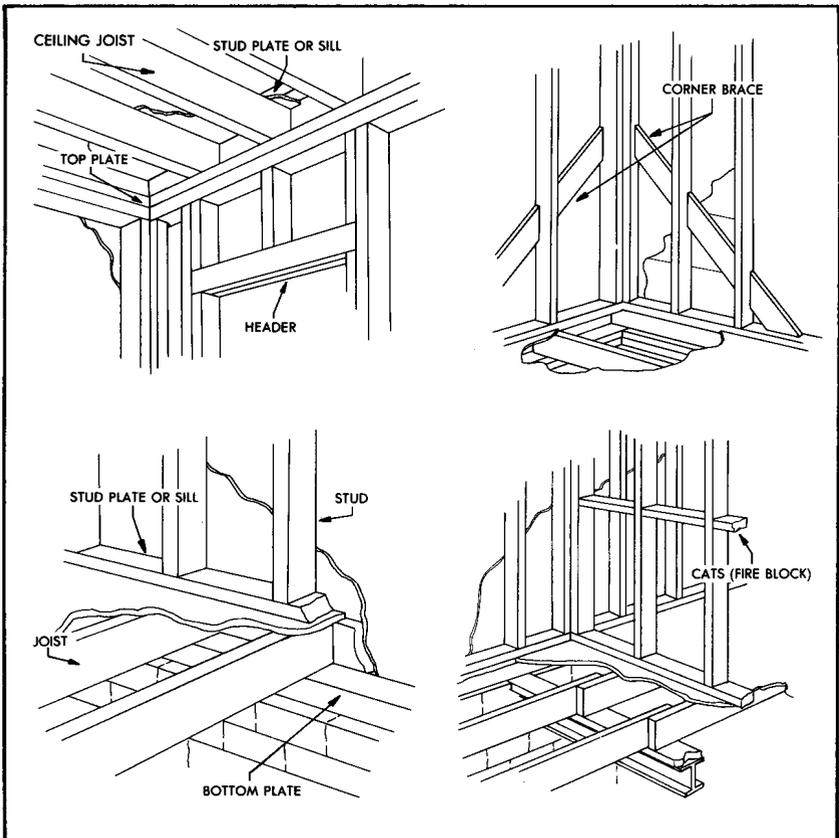

FIGURE 5. Wall Obstructions
(3) Some of the obstructions which may be encountered are shown in Figure 5.